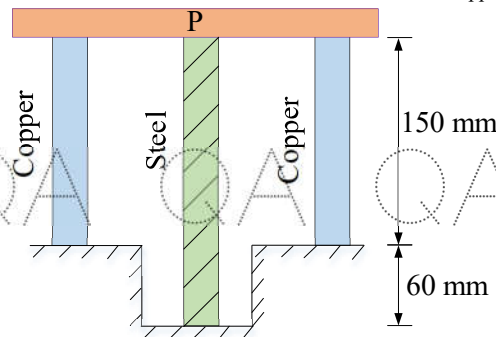

Figure. 1
3. Two copper rods and one steel rod together support a load 'P' as shown in Figure.1. The cross-sectional area of steel rod is 2500 mm^2 and of each copper rod is 1600 mm^2 . If the stresses in the copper and steel are not exceed 50 MPa and 100 MPa, determine the safe load that can support. Take $E_{\text{steel}} = 2 \times 10^5 \text{ N/mm}^2$ and $E_{\text{copper}} = 1 \times 10^5 \text{ N/mm}^2$. [10]